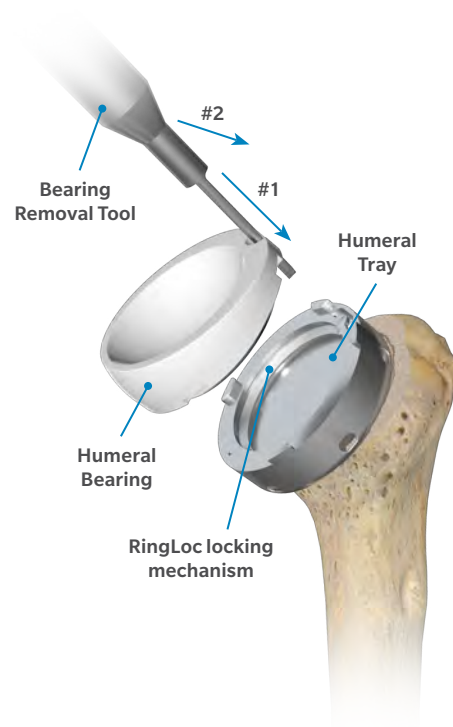

Figure 41
If a Humeral Bearing ever needs to be replaced, the RingLoc locking mechanism of the Humeral Tray will allow for exchange/revision of Bearings without Tray removal (Figure 41).
- Once the ring has been expanded, slide the Removal Tool down and then underneath the Bearing. The Humeral Bearing is now released (Figure 41).